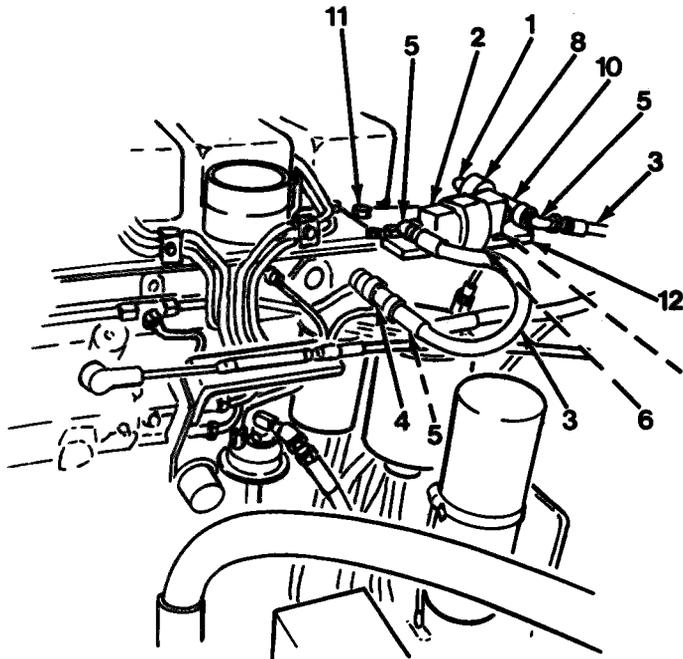

Figure 7-1
2. Disconnect pressure switch (1) wire and transducer (2, Figure 7-1) wire.
5. Remove three elbow adapters (5, Figure 7-1).
6. Remove two nuts (6), capscrews (7), clamps (8) and (9) and transducer (2).
7. Remove pressure switch (1) from tee (10).
8. Remove tee (10) from transducer (2).
9. Remove two capscrews (11) and plate (12).